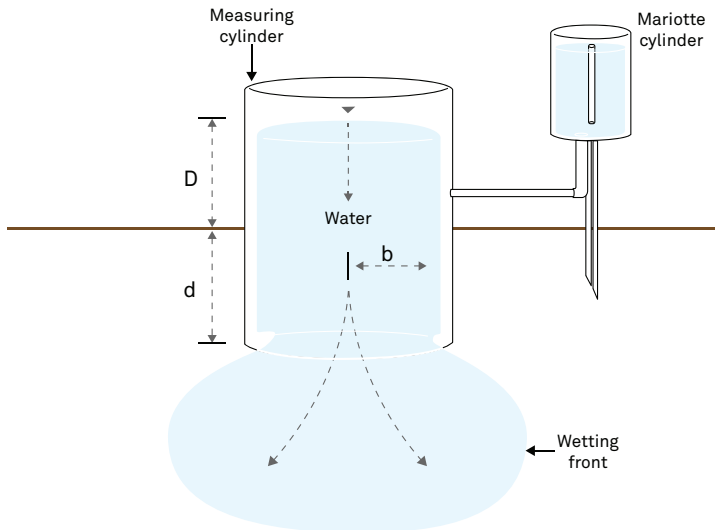

Figure 33 Cross section of a single-ring infiltrometer
Field saturated hydraulic conductivity, K_{fs} (cm/s) is a fundamental soil hydraulic property that describes the ease with which a fluid (usually water) can move through pore spaces or fractures under field saturated conditions. One of the oldest and simplest methods for in situ determination of K_{fs} has involved the measurement of ponded infiltration (D) from within a single ring (with a radius b) pushed a small distance into the soil (d) (Figure 33). The original analysis used the measured steady flow rate, Q , (cm³/s), and assumed one-dimensional, vertical flow to obtain K_{fs} from Bouwer (1986) and Daniel (1989).